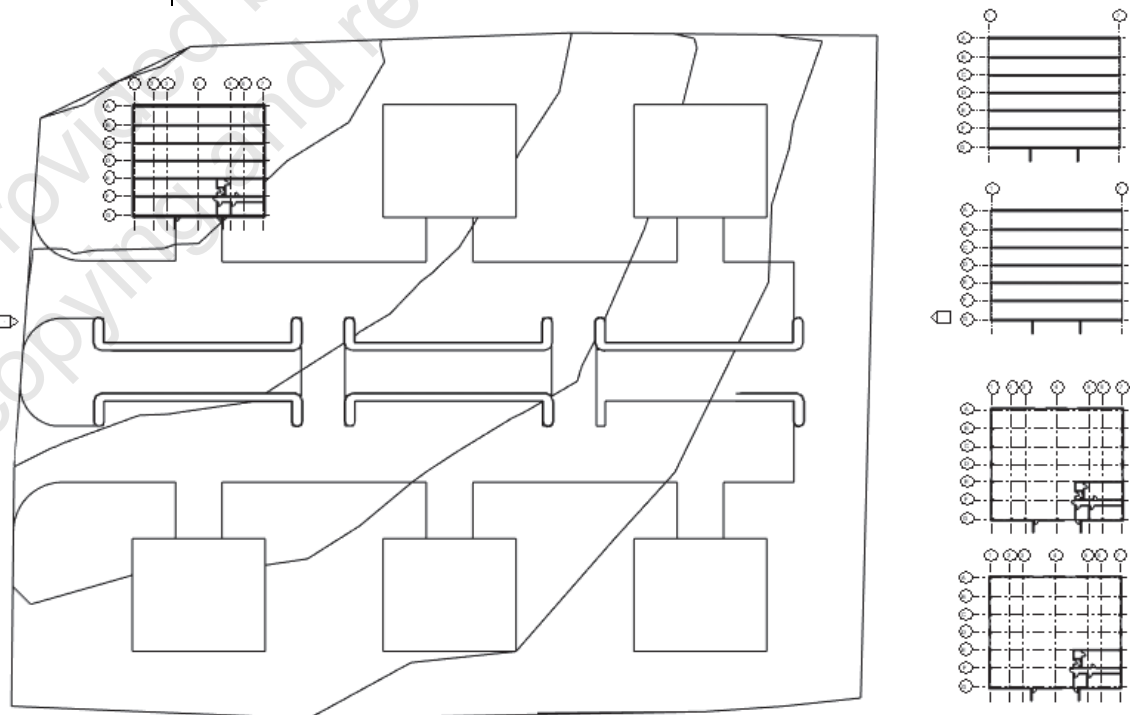

Figure 1-72
2. From Lot 1, select the **Industrial-Building-A-M.rvt** link and copy it two times over to the right side of the site. Do the same with the **Industrial-Building-S-M.rvt** link. It should look similar to what you see in Figure 1-72.